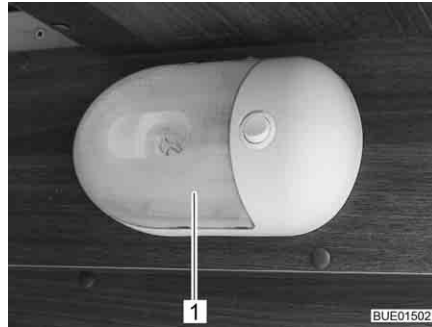

Fig. 225 Surface mounted light
- Carefully push the transparent cover (Fig. 225,1) together from both sides, pull it lightly from the switch and pull it off forwards.